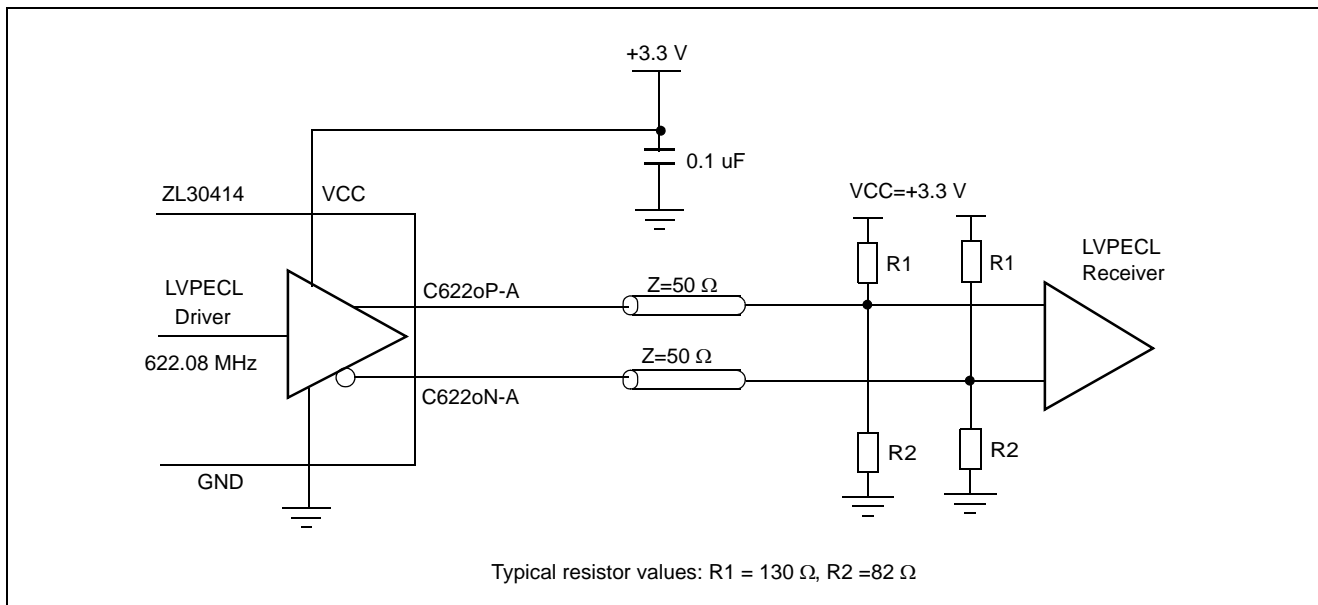

Figure 8 - LVPECL to LVPECL Interface
- Note 2: LVPECL outputs terminated with  $Z_T = 50\ \Omega$  resistors biased to  $V_{CC}-2V$  (see Figure 8)